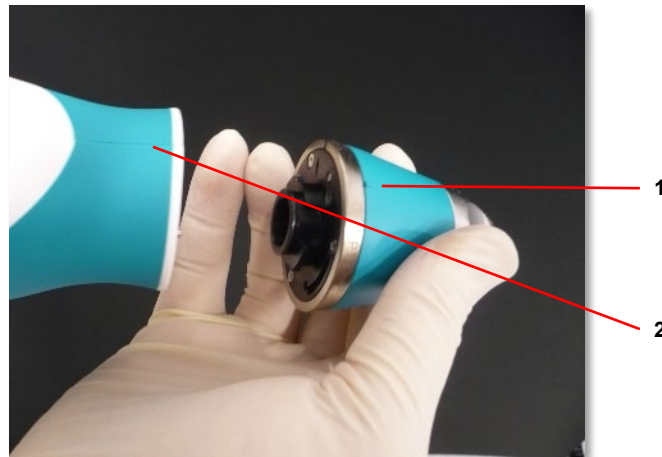

Figure 8. Lens Piece Alignment Tab and Handpiece Alignment Seam
1. Hold the handpiece with one hand and the lens piece with the other hand, and align the tab (1) on the lens piece with the seam (2) along the top of the handpiece (Figure 8).